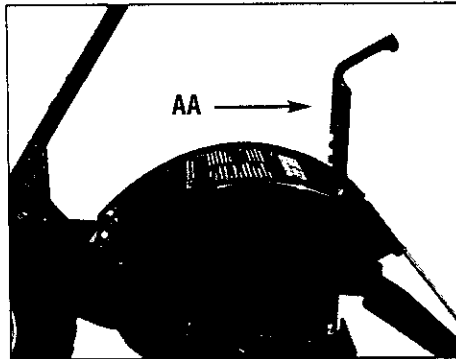

Figure 2-7: Adjust Depth Regulator Lever.
1. With the tiller on level ground, pull the Depth Regulator Lever (AA, Figure 2-7) back and then all the way up until the lowest notch in the lever is engaged.